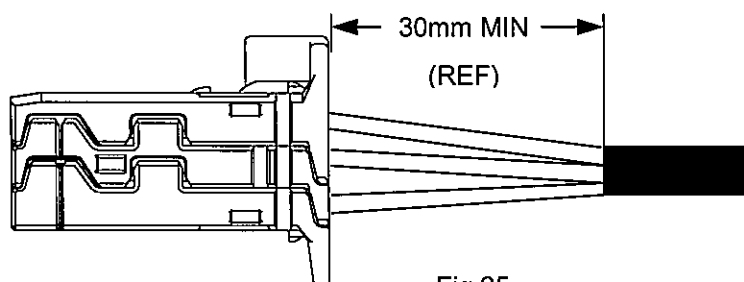

Fig.25
**Note** The completion of stacking the layers(6-4) is shown in Fig.25. When taping before the stacking, consider the distance that won't interfere the stacking.